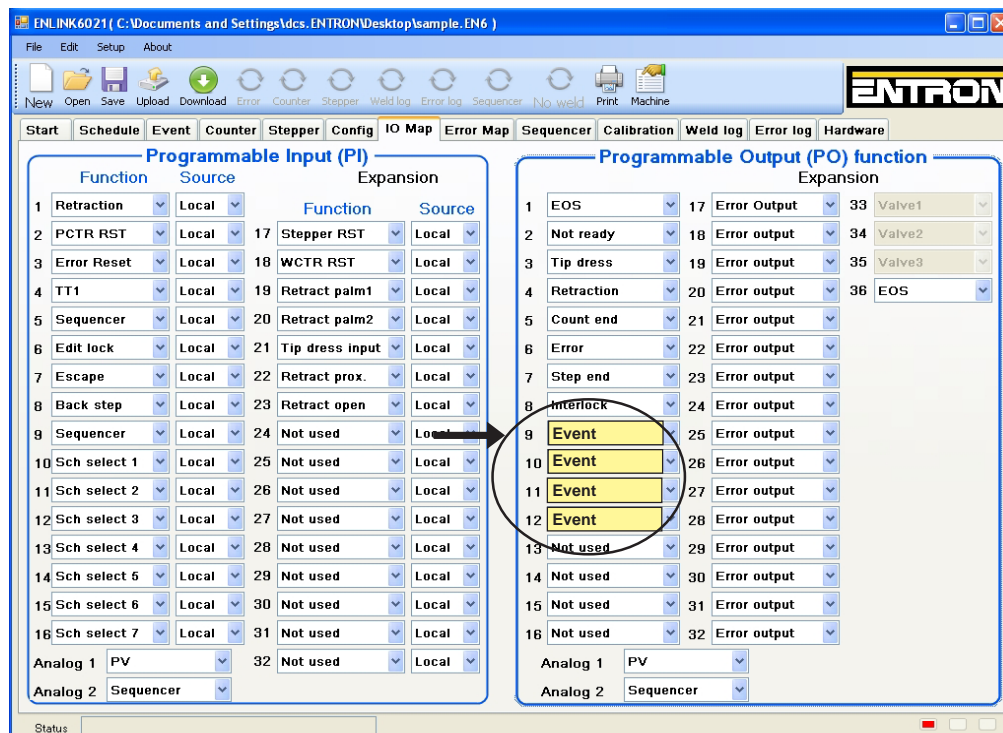

Figure 9-41. Input/Output Map page
C. Map OUTPUTS PO9 through PO12 to Event on Input/Output Map page (Figure 9-41).